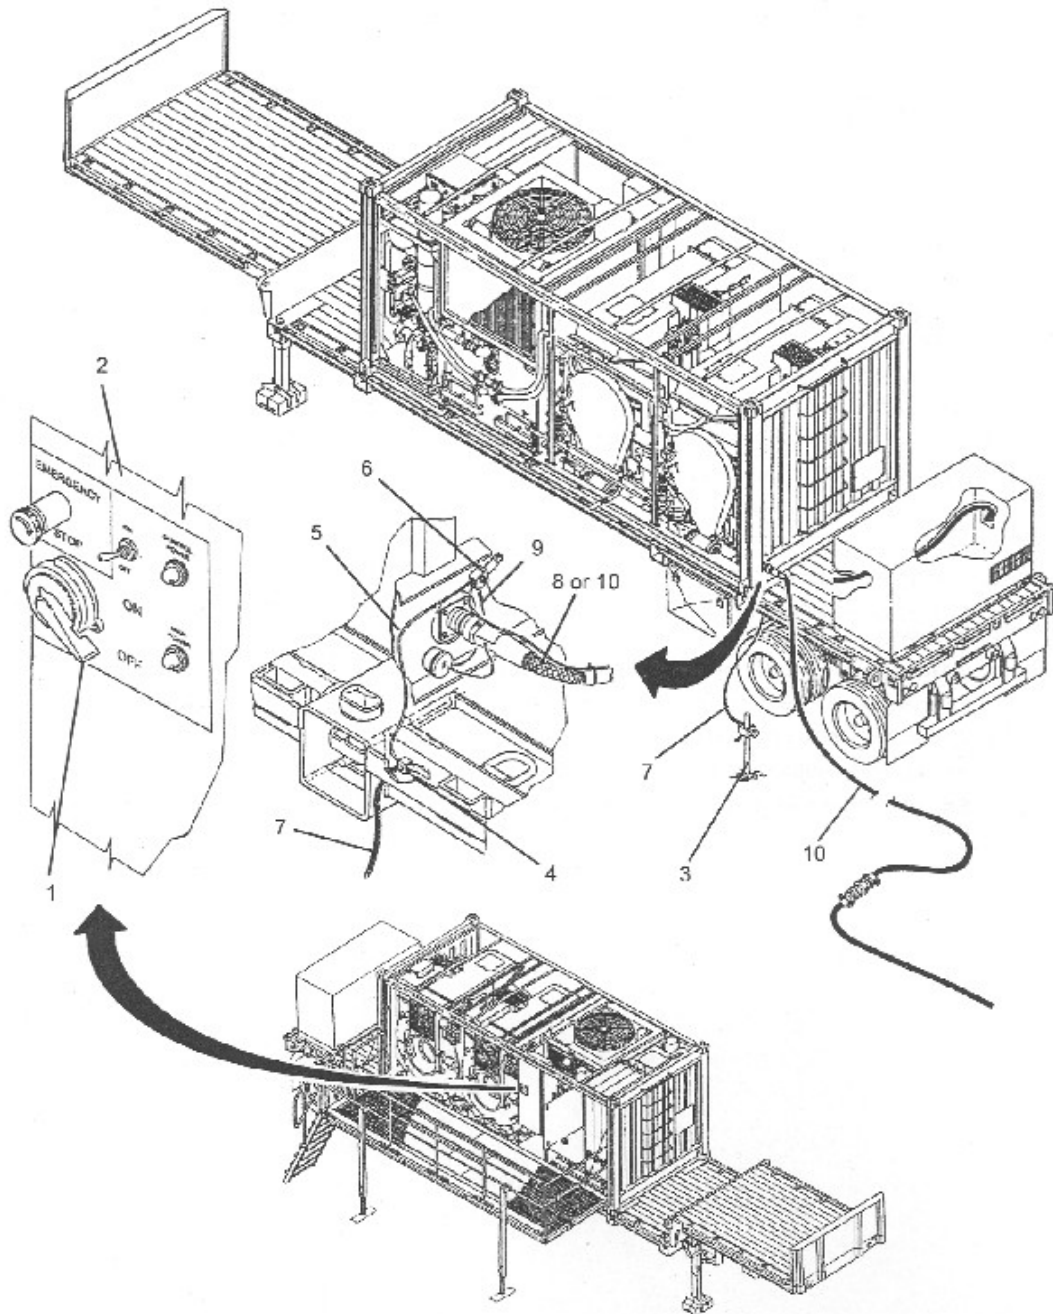

Figure 3-44
- 1. Ensure MAIN DISCONNECT switch (1) on main control enclosure (2) is OFF. Position switch to OFF if necessary.
- 2. Drive grounding rod (3) into the earth, near grounding lug (4), to a minimum depth of eight feet.
- 3. Ensure grounding wire (5) is attached to grounding lugs (4), (6) and (9). Attach grounding wire if necessary.
- 4. Connect grounding wire (7) to grounding rod (3) and grounding lug (4).
- 6. Ensure power cable (8) is connected at junction box (9) and MEP--805A generator. Connect power cable if necessary. (See Figure 3-44)